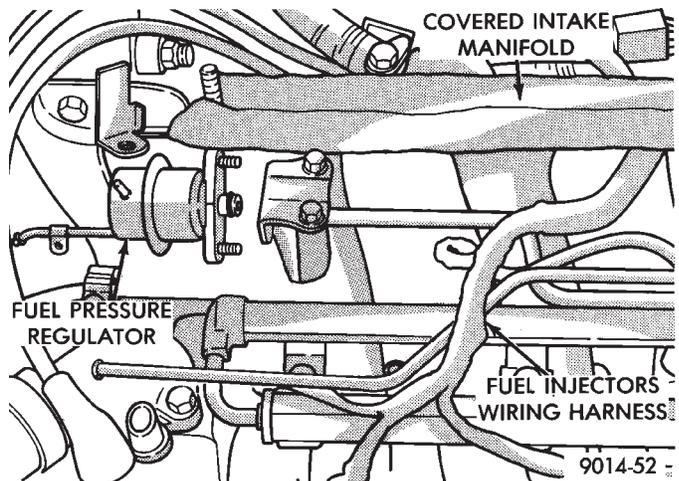

Fig. 12 Fuel Pressure Regulator to Fuel Rail Assembly
- (3) Make sure the injector holes are clean and all plugs have been removed.
- (4) Lube injector O-ring with a drop of clean engine oil to ease installation.
- (5) Put the tip of each injector into their ports. Push the assembly into place until the injectors are seated in the ports.
- (6) Install the (3) fuel rail attaching bolts and torque to 13 N•m (115 in. lbs.).
- (7) Install fuel pressure regulator onto fuel rail. Install attaching bolts to intake manifold. Torque regulator nuts and bracket bolts to 10 N•m (95 in. lbs.) (Fig. 12).